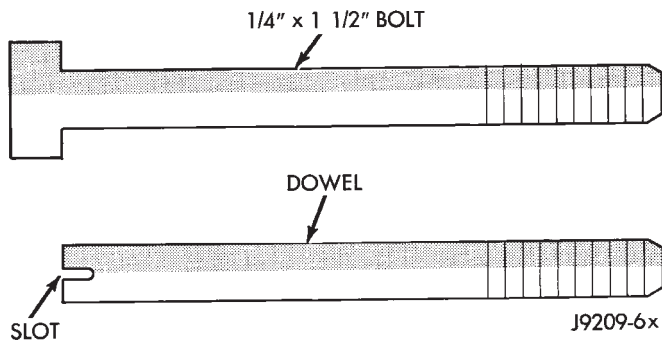

Fig. 1 Fabrication of Alignment Dowels
(1) Fabricate 4 alignment dowels from 1/4 x 1 1/2 inch bolts. Cut the head off the bolts and cut a slot into the top of the dowel. This will allow easier installation and removal with a screwdriver (Fig. 1).